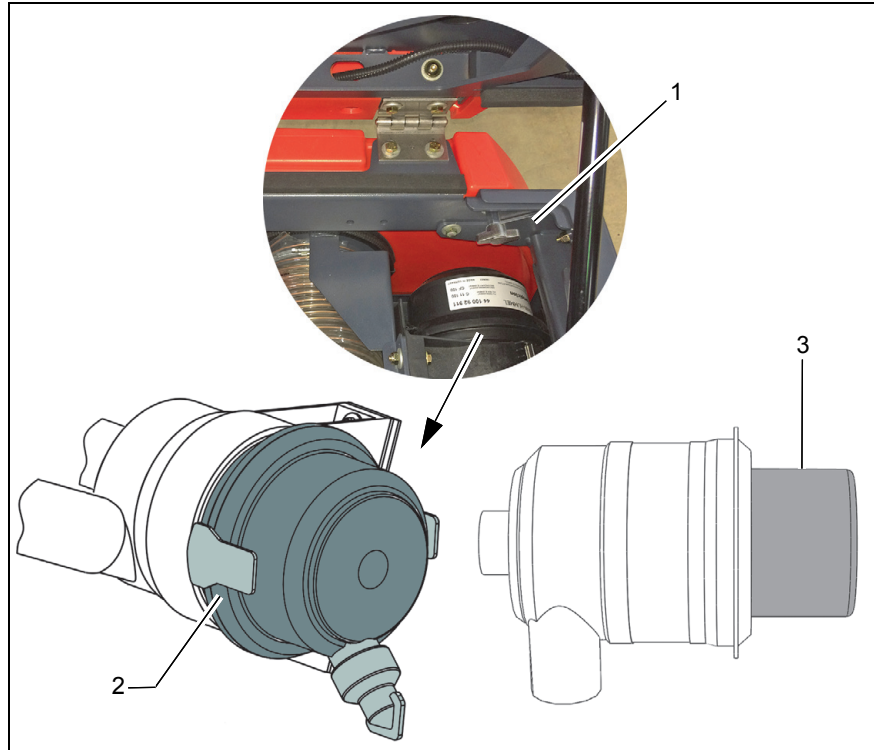

Fig.21
5. Remove lock cap (Fig. 21/1) and filter (Fig. 21/2).